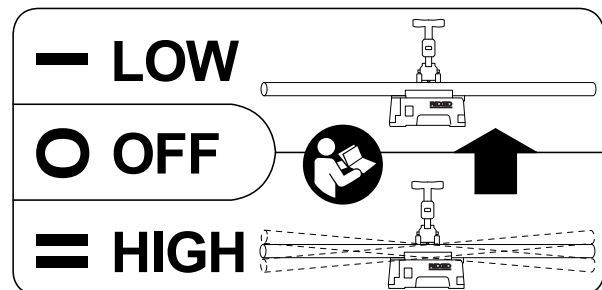

Figure 8 – Speed Label
- Position the foot switch as shown in *Figure 8* to allow a proper operating position.
The Power Tubing Cutter has two operating speeds – LOW and HIGH, see Figure 8.